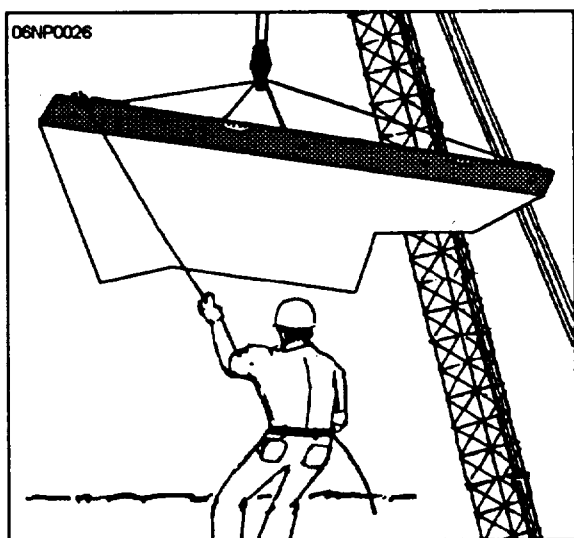

Figure 1-21.—Using tag lines to control load.
- Keep the load under control at all times. Where necessary by the rotation, use one or more guide wire ropes or tag lines to prevent the rotation or uncontrolled motion (fig. 1-21).